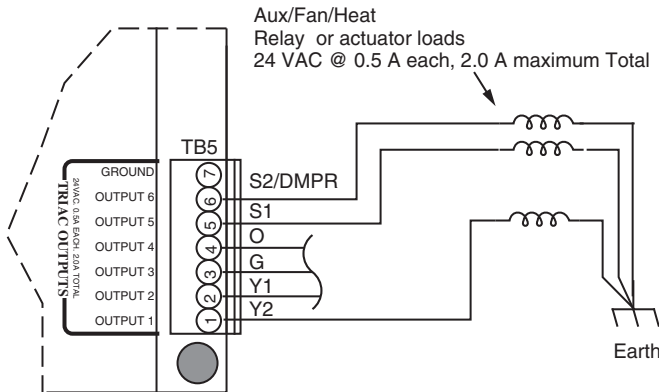

Figure 6. Output Device Connections
1. Connect one lead of the control relays to TB5 – 1 through TB5 – 6 (Output 1 through Output 6) as shown in Figure 6.